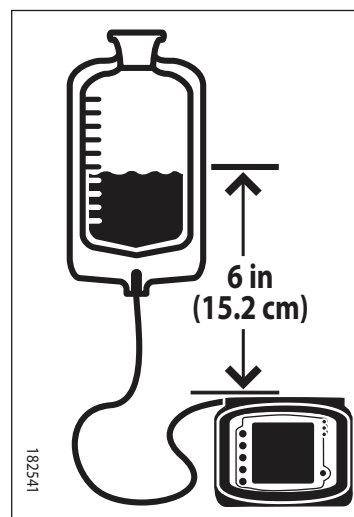

Figure 4B. Correct Fluid Level.
4. **Suspend the pump set bag so that the top of the starting volume of formula is 6 inches above the pump (Figure 4B).**
7. **The top of the starting volume of formula should be 6 inches above the pump (Figure 4B).**